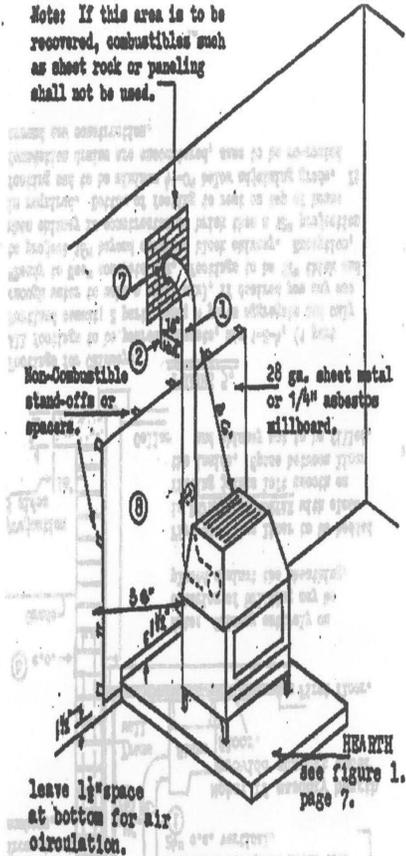

FIGURE 2.
- (8) Example: There is only 18" of space behind the stove. The required clearance is 36". (See Figure 1, page 7). Now see the Reduced Clearance Table, page 6. In the 36" column (Column 1) see the Sides and Rear. Example (a) will solve this problem. 1/2" asbestos millboard spaced out 1". Millboard is in bold because it is not the same as cementboard, or asbestos board. Note the spacers are to be noncombustible; i.e.: short pieces of metal pipe, etc. (See Figure 2, page 8).